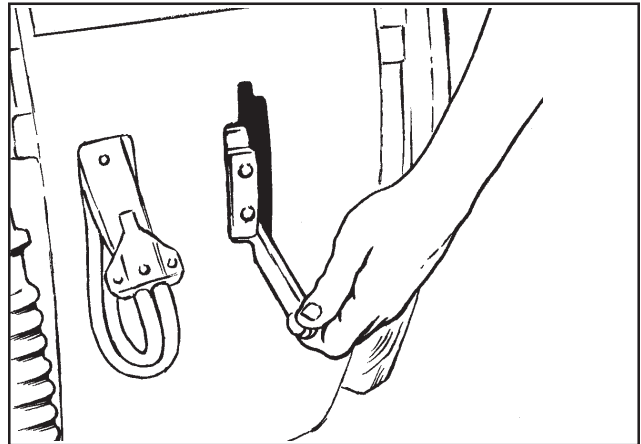

Figure 4
**Vacuum Motor Switch (See Figures 4 & 5, pg. 11)**
### **Squeegee Lift Handle. See Figures 4 and 5**